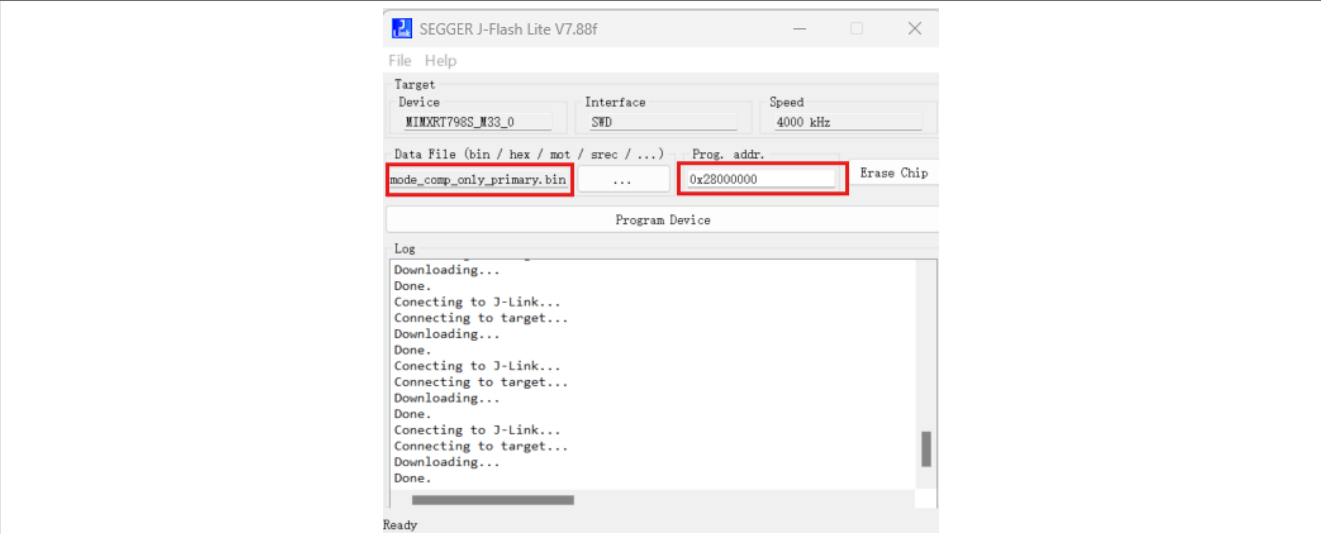

Figure 9. Download the image
- 12. Download the image to the address **0x28000000**. Figure 9 shows an example of downloading an image to the address **0x28000000** with JLINK. To download the binary file to flash, you can choose other methods such as blhost.